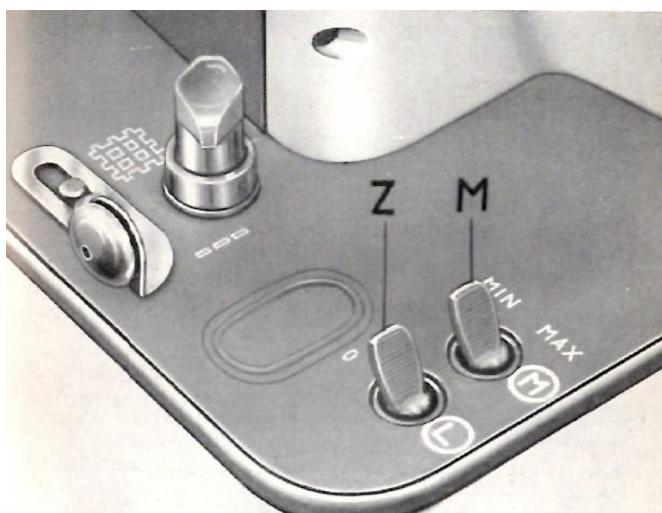
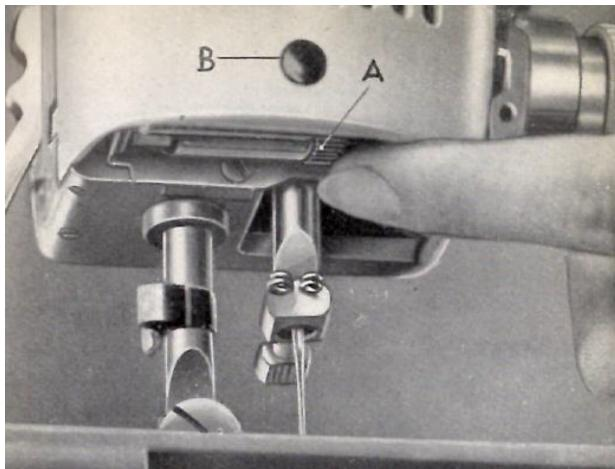

Figure 22
Figure 23 To commence sewing
- b) Push switch Z (figure 22) towards the right into position L. When switch Z is in position L, a red lamp B (figure 23) situated in the lower half of the face plate, will light up, indicating that current is being supplied to the machine.
With the switch M (figure 22) the speed regulator, a constant reduction of motor speed can be obtained; this is useful for certain types of work and also for beginners.
NOTE: if sewing conditions make the built in light unnecessary, it can be cut out simply by turning with a finger the shade which is controlled by the knurled button A (see figure 23) under the face plate. The red signal light B however will continue to glow.